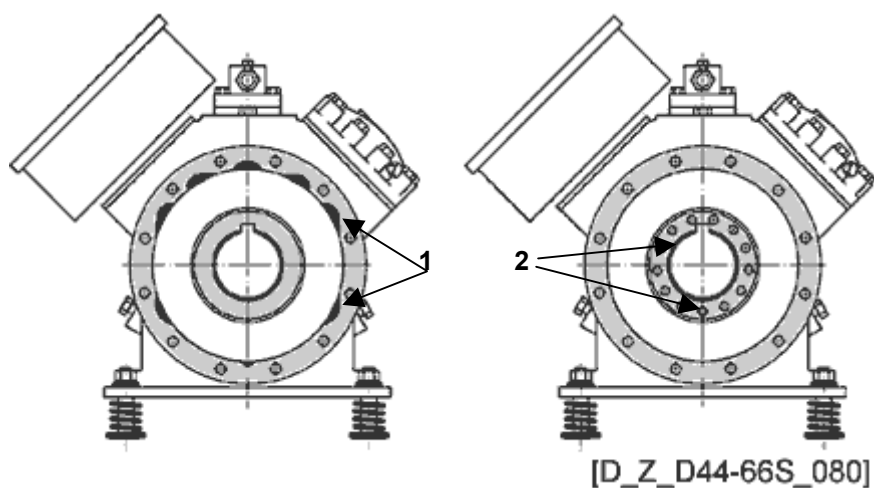

Fig.34 View of compressor motor after removal of suction chamber (by-pass body left)
Compressors D4S and D6S are manufactured using by-pass bodies (see figure 34). The suction gas flows through passages around the stator (1) and not through holes in the rotor (2) as in the past, this reduces losses and thereby increases efficiency. The D8S has not been affected by these changes.